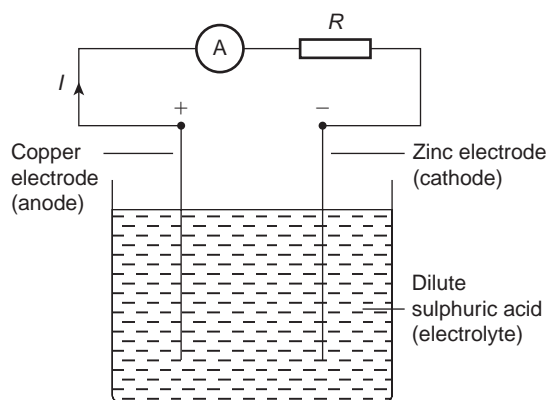

Figure 6.1
A **simple cell** comprises two dissimilar conductors (electrodes) in an electrolyte. Such a cell is shown in Fig. 6.1, comprising copper and zinc electrodes. An electric current is found to flow between the electrodes. Other possible electrode pairs exist, including zinc–lead and zinc–iron. The electrode potential (i.e. the p.d. measured between the electrodes) varies for each pair of metals. By knowing the e.m.f. of each metal with respect to some standard electrode, the e.m.f. of any pair of metals may be determined. The standard used is the hydrogen electrode. The **electrochemical series** is a way of listing elements in order of electrical potential, and Table 6.1 shows a number of elements in such a series.
If the simple cell shown in Fig. 6.1 is left connected for some time, the current I decreases fairly rapidly. This is because of the formation of a film of hydrogen bubbles on the copper anode. This effect is known as the polarisation of the cell. The hydrogen prevents full contact between the copper electrode and the electrolyte and this increases the internal resistance of the cell. The effect can be overcome by using a chemical depolarising agent or depolariser, such as potassium dichromate, which removes the hydrogen bubbles as they form. This allows the cell to deliver a steady current.
- (i) The metal that is higher in the series acts as the negative electrode, and vice versa. For example, the zinc electrode in the cell shown in Fig. 6.1 is negative and the copper electrode is positive.